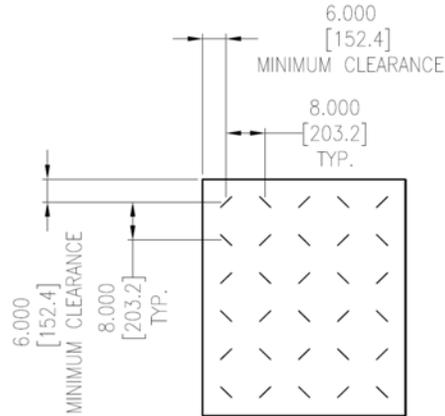

Figure 15. Example of 8''x8''(20.3x20.3cm) Wire Anchor Pattern
- a. For vertical walls, sloped floors and overhead generally use 8''(20.3 cm) centers, similar to Figure 15.